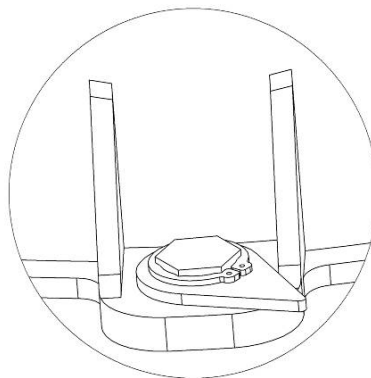

Figure 2
5. Reinstall the condenser blower assembly onto the condenser blower assembly with 4x ES39019-1 anti-rotation fasteners. Torque bolt from ES39019-1 to 100-140 in-lbs. Place anti-rotation retainer from ES39019-1 over top of bolt head, orienting anti-rotation retainer full counterclockwise as shown in Figure 2. Attach snap ring from ES39019-1.